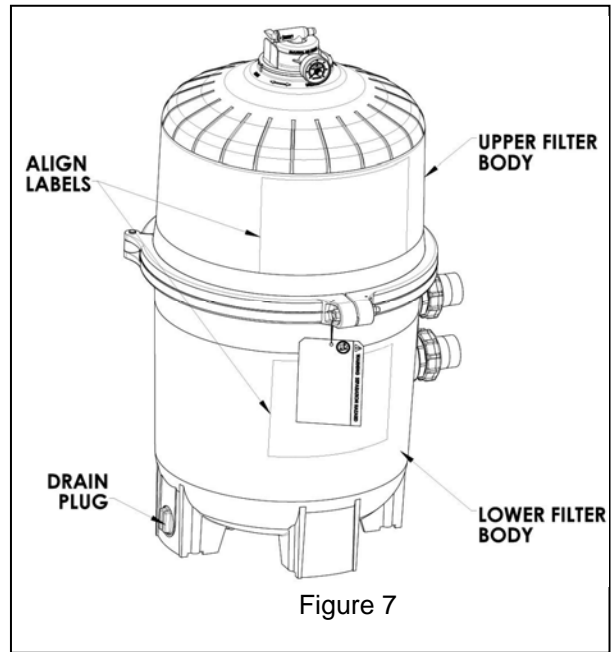

Figure 7
1. Place the metal reinforced seal on the lower filter body (Fig 4). Place the upper filter body on the Hayward DEX2422Z2 metal reinforced seal and lower filter body in a position which allows all operation and safety labels to be clearly visible and the upper body to be centered on the lower filter body. Press down firmly and evenly to set the upper filter body. (Fig 7)
2. Replace the filter clamp around the upper and lower filter bodies. Hold the clamp ends to position the clamp on the filter bodies with the clamp ends adjacent to the safety and operation labels on the filter bodies. (Fig 7)